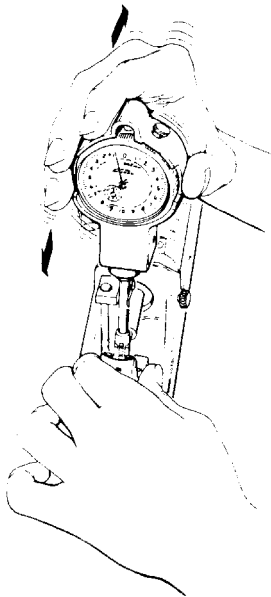

FIGURE 12
11. While holding the Nest stationary, rock the Gage in the vertical plane (see Figure 12) until the Indicator Hand registers the minimum reading. When using a GAM-4000 or GRM-6000 Series Gage, allow the Support Post Spring Finger to hold the Nest in the minimum reading position. Recheck the minimum reading in the horizontal plane. The Indicator Hand should now be within about 30° of the 12 o'clock position on the dial. If not, readjust the Gage Point until it is.